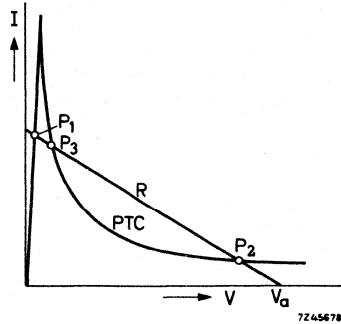

Fig.6.
- (1)  $V_a$  increases (Fig. 6);